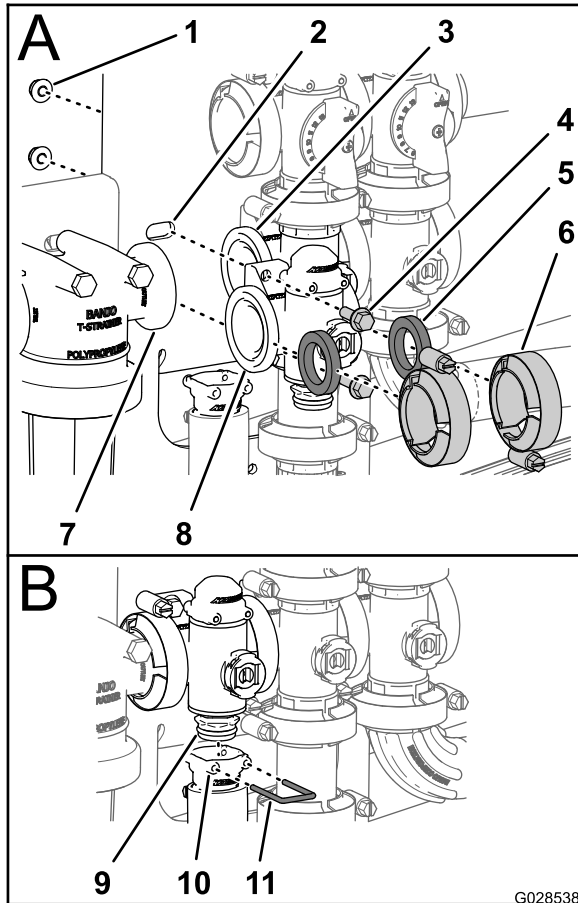

Figure 61
1. Align a 1 gasket between the flanges of the rate control valve manifold and the pressure filter head (A of Figure 61).
4. Assemble the rate control valve manifold, gasket, and agitation valve manifold with a clamp tightened hand tight (A of Figure 61).
5. Assemble the rate control valve to the valve mount with the 2 flanged-head bolts and 2 flanged locknuts (A of Figure 61) that you removed in step 3 of Removing the Rate Control Manifold Valve \(page 56\) and torque the nut and bolt to 1017 to 1243 N-cm (90 to 110 in-lb).
6. Assemble the outlet fitting onto the lower endcap fitting of the manifold valve (B of Figure 61).
7. Secure the endcap fitting to the outlet fitting by inserting a retainer into the socket of the outlet fitting (B of Figure 61).
2. Assemble the rate control valve manifold, gasket, and pressure filter head with a clamp tightened hand tight (A of Figure 61).
3. Align a 1 gasket between the flanges of the rate control valve and the agitation valve manifold (A of Figure 61)